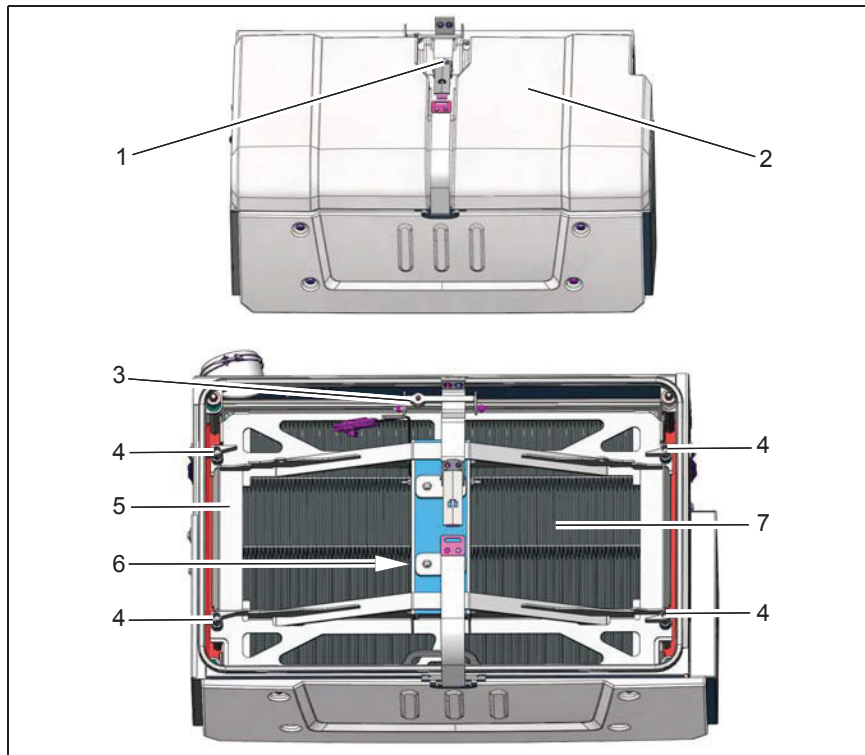

Fig.31
The dust filter (Fig. 31/7) is located under the cover (Fig. 31/2). The fine dust swirled up by the rotary brush is drawn into the filter element by the suction turbine. Check the level of dirt in the dust filter weekly.
2. Open the lock (Fig. 31/1) on the cover (Fig. 31/2).
3. Loosen the wing bolts (Fig. 31/4), pivot up the frame (Fig. 31/5) with the agitating device (Fig. 31/6) and allow it to engage in the holder (Fig. 31/3).
4. Remove the dust filter (Fig. 31/7).